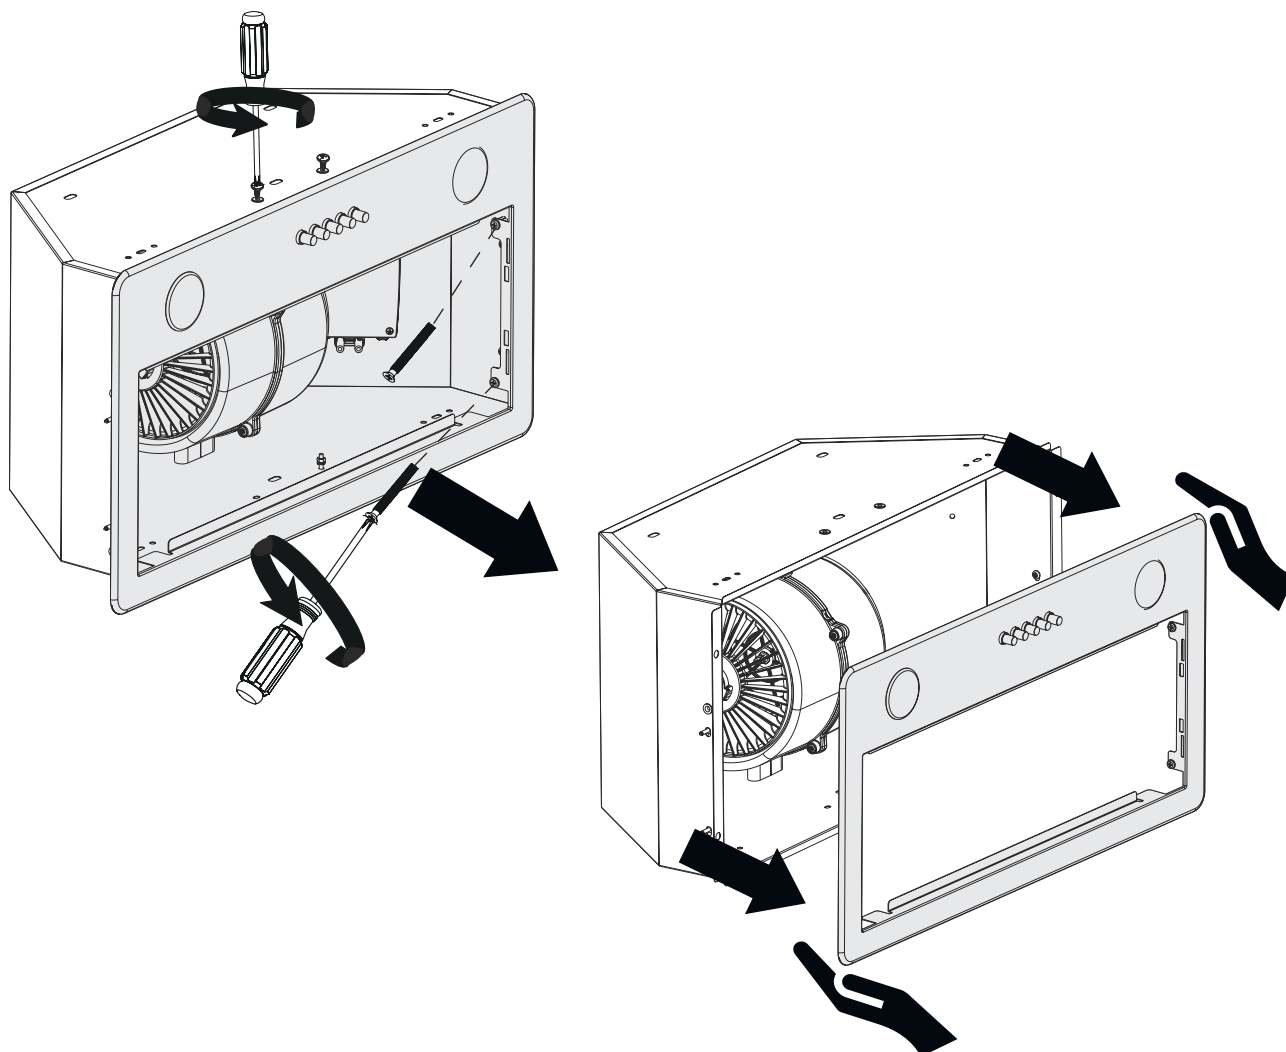

Fig. 14
3. Remove the 4 screws located on the right and left short sides of the hood (Fig. 14). After unscrewing the 2 head screws located on the housing, remove the glass by pulling it towards you (Fig. 14).